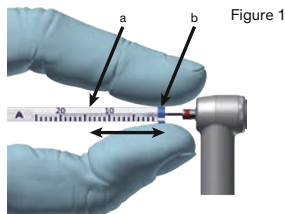

Figure 1
3. Fix the canal working length by using the plastic tube (a) to adjust the endo stop (b) (Fig. 1).